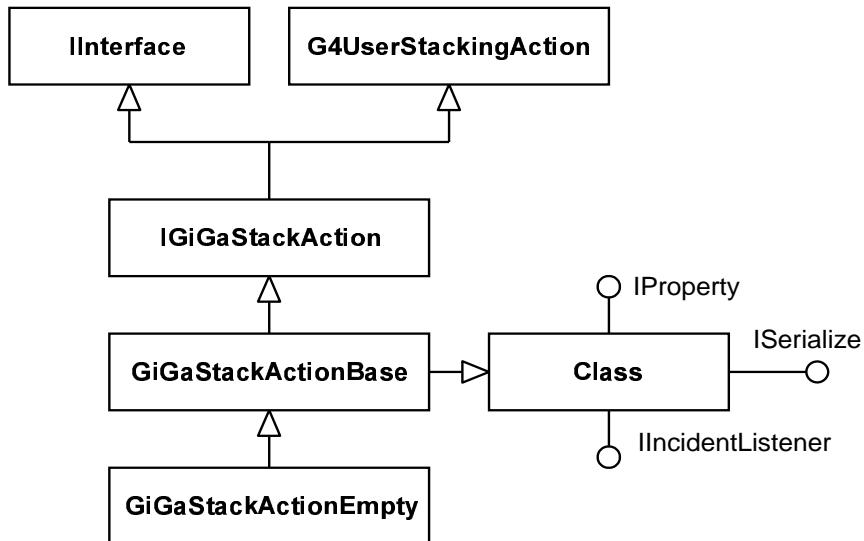

Figure 4.6: The class diagram for **GiGaStackActionBase** class
**GiGA** provides the possibility of instantiation of such objects using abstract factories approach. To get this behaviour the intermediate abstract interface **IGiGaStackAction** is defined by merging **G4UserStackingAction** class with **IInterface** interface. Then one could reuse the standard approach of abstract factories to instantiate such objects. The simplified class diagramms are shown on figure 4.6.